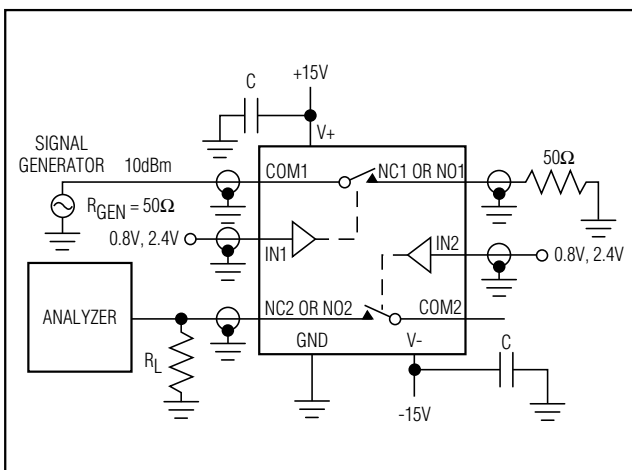

Figure 3. Crosstalk Test Circuit (repeat for channels 3 and 4)
**Note 5:** See Figure 3. Off Isolation =  $20 \log_{10} \left( \frac{V_{COM}}{V_{NC\_} \text{ or } V_{NO\_}} \right)$ , VCOM = output, VNC or VNO = input to off switch.